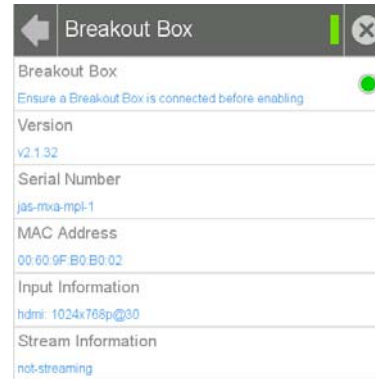

FIG. 6 BREAKOUT BOX SETTINGS PAGE
2. From the *Connections & Networks* page, select **Breakout Box** to open the *Breakout Box* page (FIG. 6).